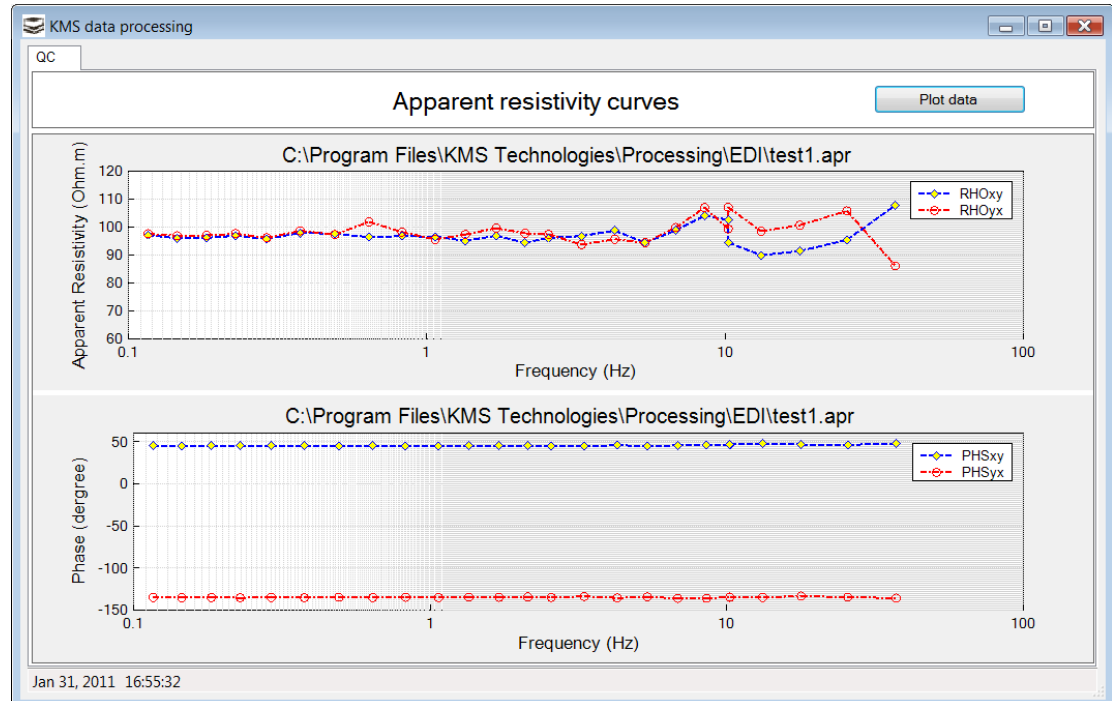

Figure 53 – Apparent resistivity curves
12. Plot – Allow the user to plot the apparent resistivity file produced in step 11 above, Figure 53; .apr file needs to be selected by click “Plot data” for apparent resistivity curve display.